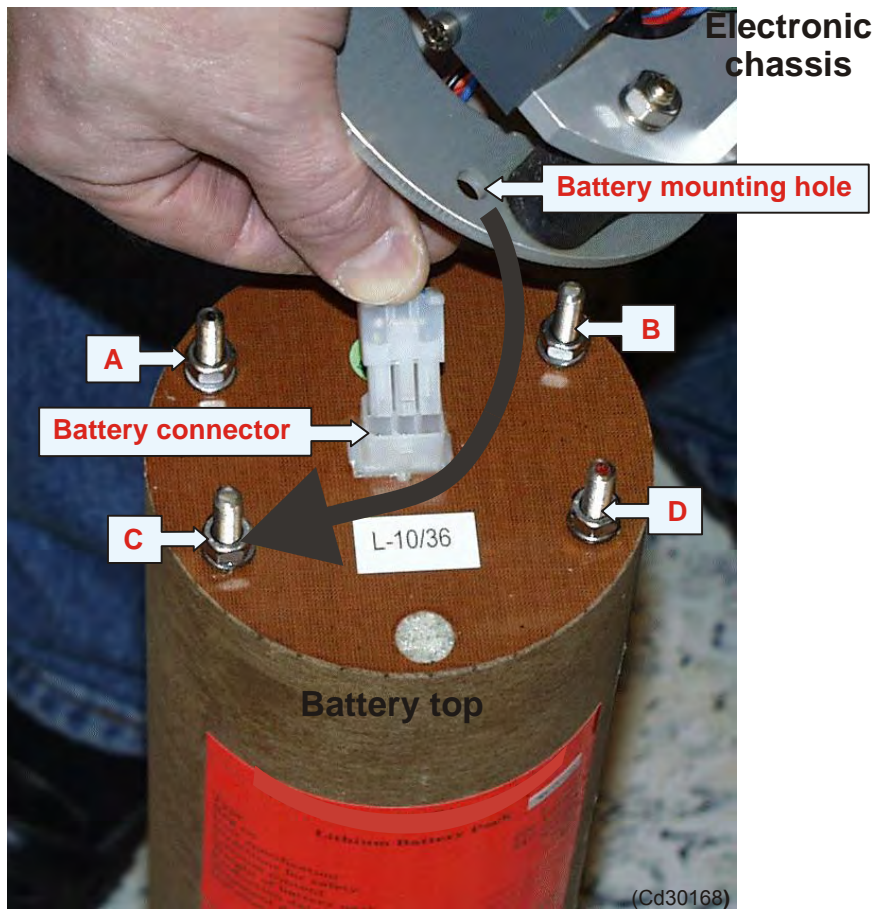

Figure 19 Connecting and mounting the battery
- 2 Connect the battery as illustrated in Figure 19 on page 60.